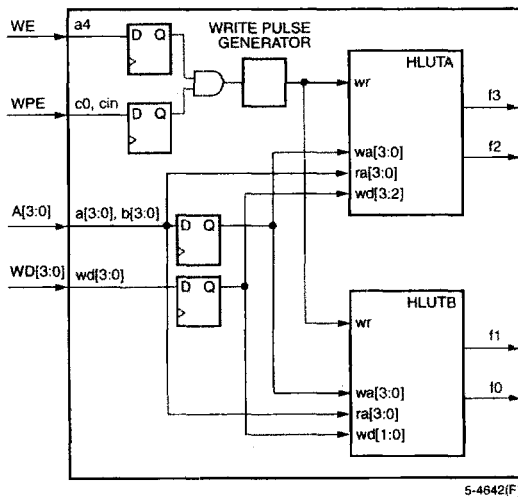

Figure 14. SSPM Mode—16 x 4 Synchronous Single-Port Memory
With SSPM mode, the entire LUT becomes a 16 x 4 RAM, as shown in Figure 14. In this mode, the input ports are write enable (WE), write-port enable (WPE), read/write address (A[3:0]), and write data (WD[3:0]). To synchronously write the RAM, WE (input into a4) and WPE (input into either C0 or cin) are latched and ANDed together. The result of this AND function is sent to a pulse generator in the LUT, which writes the RAM synchronous to the RAM clock. This RAM clock is the same one sent to the PFU latches/FFs; however, if necessary, it can be programmably inverted.